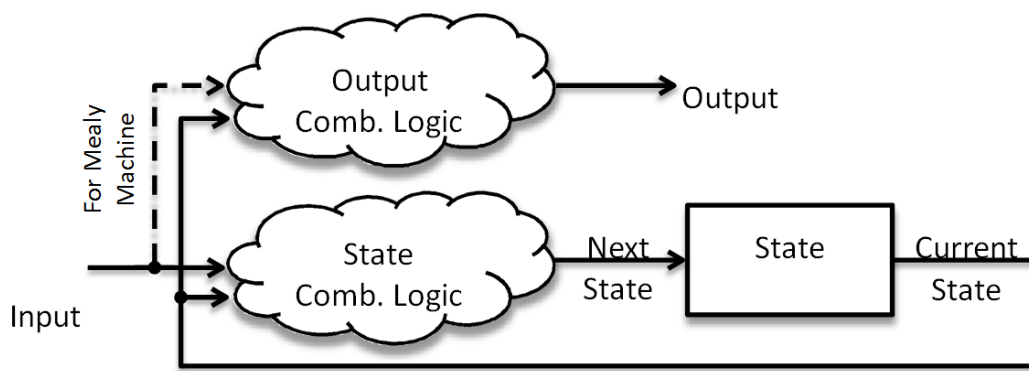

Figure 3. Typical FSM organization in HDL
This “bubble” state diagram has two states, State 0 and State 1. The name of the state and any outputs that are set in that state (LED) are shown inside the bubble. The state transitions, which depend on the inputs (button(0) and button(1)) are shown using arrows. This state diagram shows that if the machine is in State 0, and we press button(1), we’ll transition to State 1 and the LED will turn on. Pressing button(1) again will do nothing. Pressing button(0), however, will transition back to State 0 and turn the LED off. If we were to implement this (or any other) state machine in a hardware description language such as VHDL, we would structure the code as shown in Figure 3. Using this kind of structure allows the synthesis tool to detect and optimize the state machine.
Figure 3 shows the three parts of a VHDL implementation of a finite state machine: